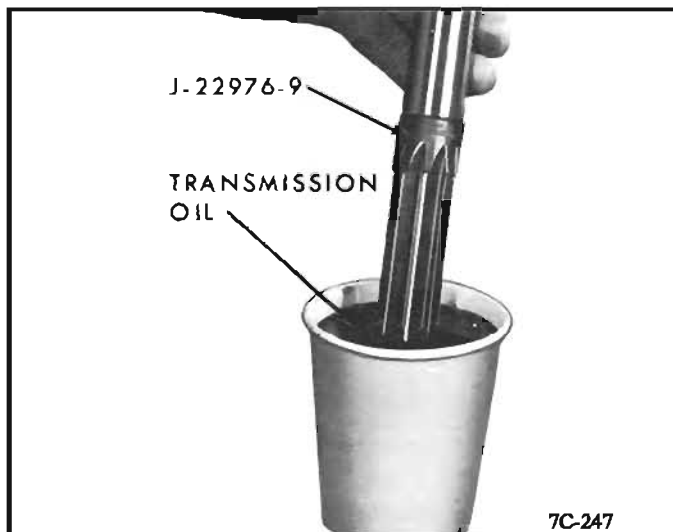

Figure 119
c. *After each 10 revolutions* remove the reamer and dip it into a cup full of transmission oil. This will clean the chips from the reamer and lubricate it. See *Figure 119*.